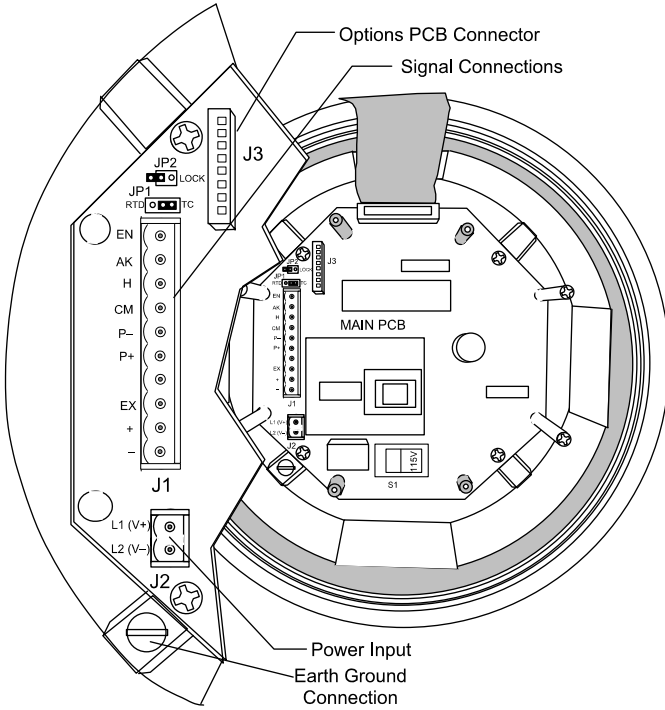

Figure 32. PD756 Connectors and Jumper Location
7. Reassemble meter prior to applying power. Front cover may remain off until programming is completed to allow installation of lockout jumper (see Figure 32, page 62).